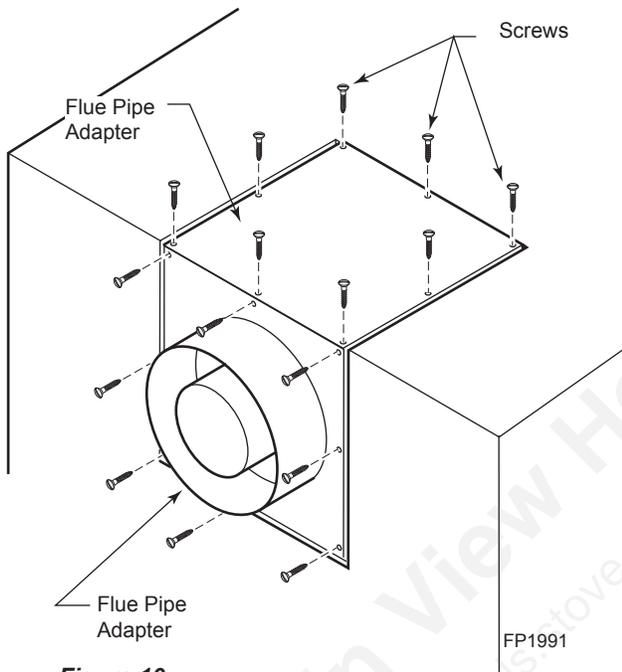

Figure 10 - Remove 16 Screws from Flue Pipe Adapter and Flue Pipe Cover
When installing into existing framed (A1) openings, loosen the junction box. Remove the rear-mounted flue pipe adaptor. Refer to Page 16, Figures 10 and 11. Reattach both assemblies.
3. Remove the eight (8) screws securing the flue pipe cover to the top of the intake box and remove the cover and gasket. *Figure 10*